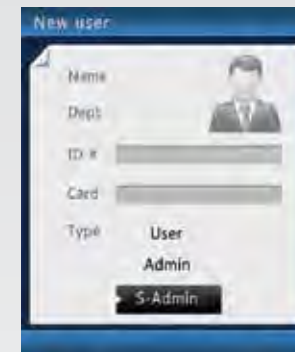

Fig 2.02-2
b) Touch **MENU** on the keypad to interrupt the Animation Cycles and initiate the New User screen. **(Fig. 2.02-2)**